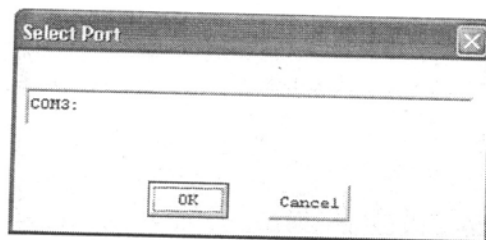

Figure 2. The Select Port dialog lets you specify the COM port associated with the Documation/USB Interface.
2. Click Port. In the Select Port dialog, enter the COM port name used by the interface, as shown in Figure 2. Click OK.